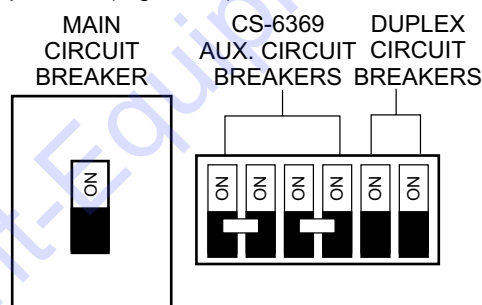

Figure 54. Main, Aux. and GFCI Circuit Breakers (ON)
10. Place the **main, GFCI, and aux.** circuit breakers in the **ON** position (Figure 54).